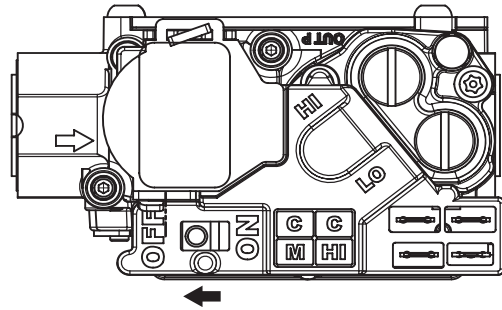

Fig. 18 - Control Switch to OFF
- Turn the switch on the gas control to the OFF position. (See Fig. 18.)